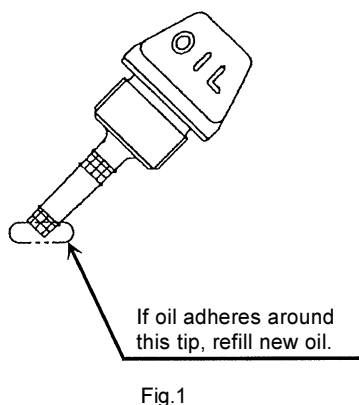
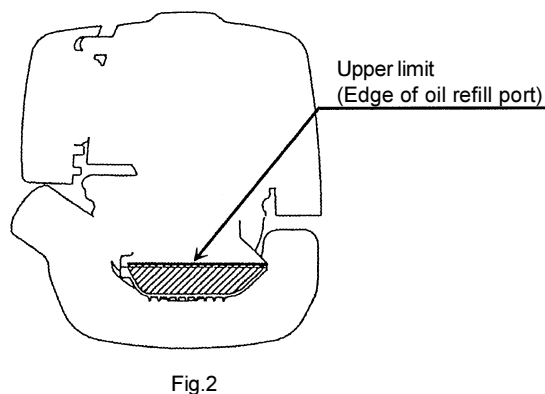

Fig.1
Fig.2
When the oil is in short in such a way that the oil gauge touches the oil only by its tip, in particular with the oil gauge remaining inserted in the crankcase without screwing-in (Fig. 1), refill new oil near the port (Fig. 2).
(1) Keep the engine level, and detach the oil gauge.
(2) Fill oil up to the edge of the oil refill port. (Refer to Fig.2 of the preceding page).